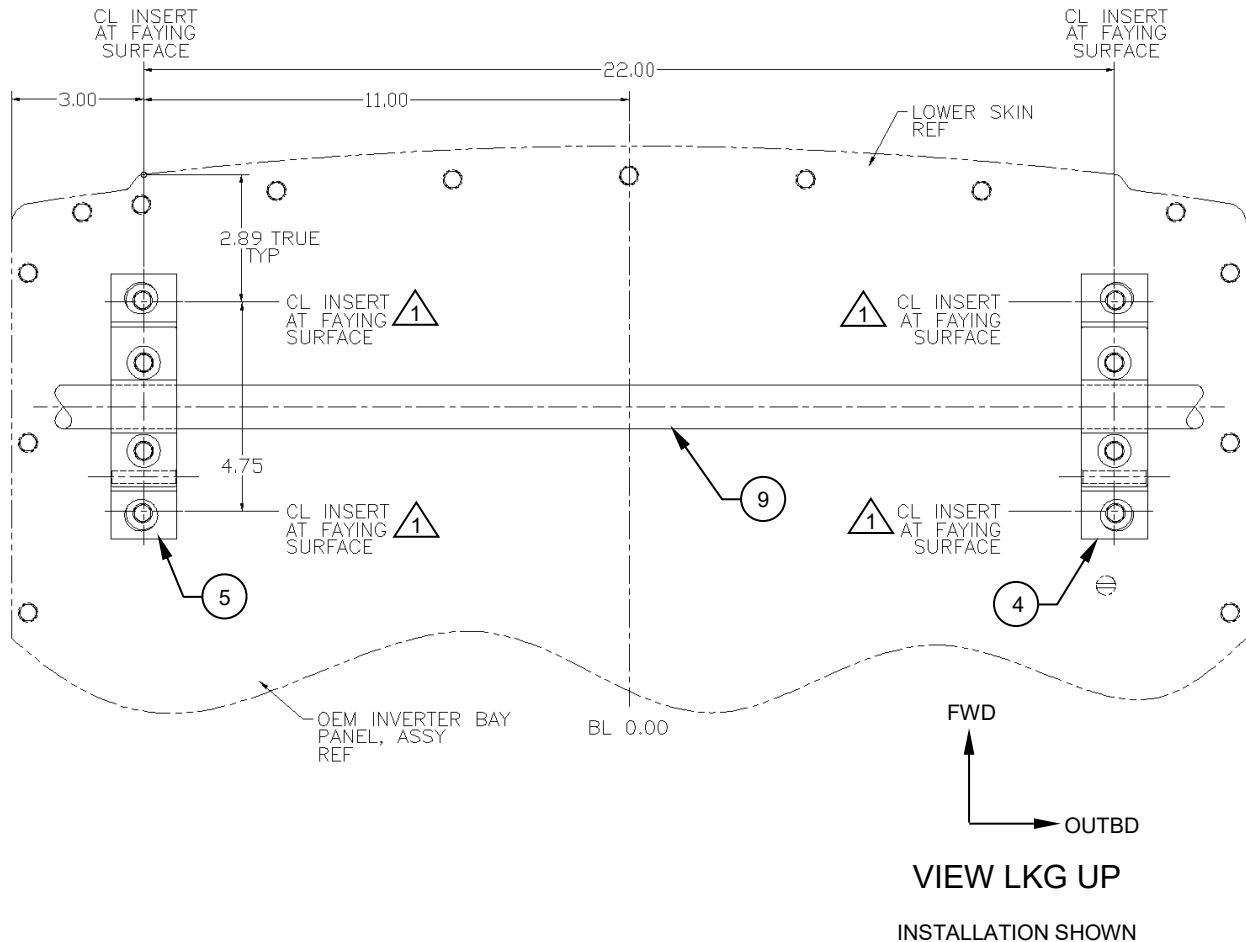

Figure 2
3. Roughly position the Mounting Block, Assys (Items 4 & 5) on the outside of the inverter bay panel. Reference Figure 2.
4. Lay the Crosstube, Assy (Item 9) into the slots in the Mounting Block, Assys (Items 4 & 5). Reference Figure 2.
5. Align the Crosstube, Assy (Item 9) perpendicular to the aircraft butt line axis and position the Mounting Block, Assys according to the dimensions shown. Reference Figure 2.